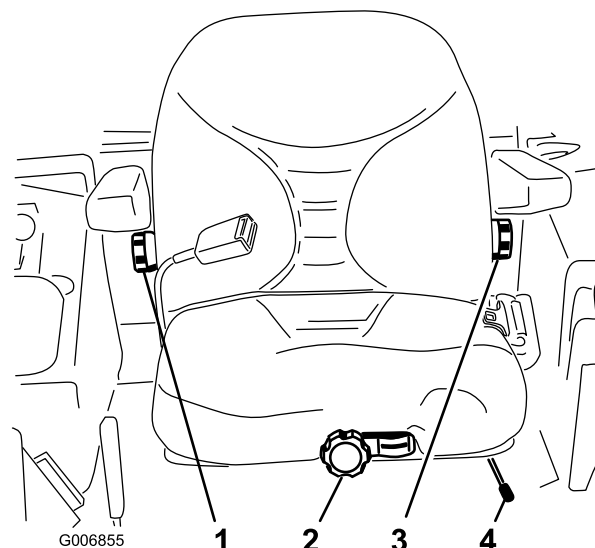

Figure 48
1. To adjust, move the lever sideways to unlock the seat (Figure 48).
Without sitting on the seat, turn the knob in front either direction to provide the best comfort (Figure 48).
To adjust it, turn the knob, under the right-side arm rest, in either direction to provide the best comfort (Figure 48).
To adjust it, turn the knob under the left-side arm rest, in either direction to provide the best comfort (Figure 48).